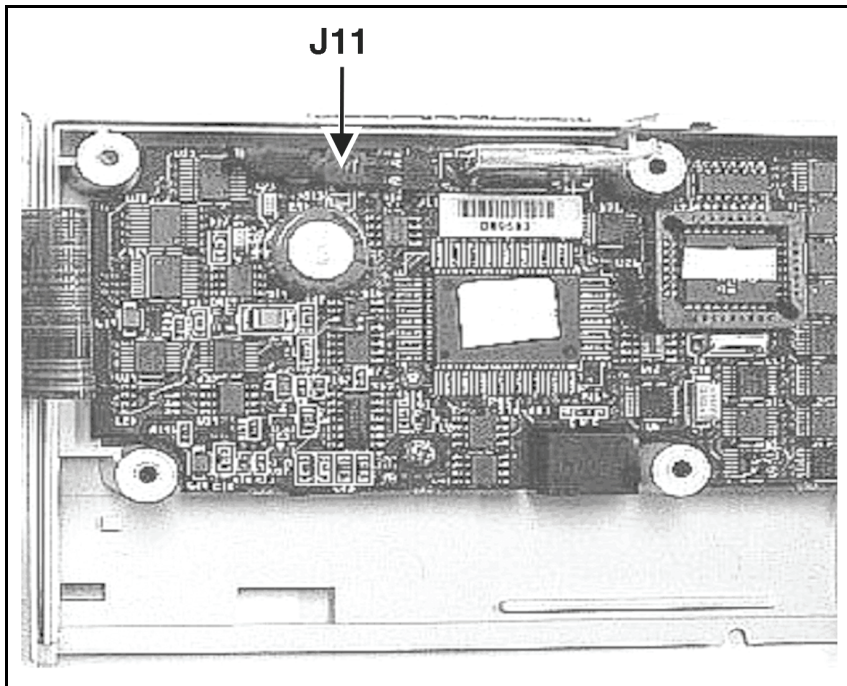

Figure 6-22. Installed Primary PCB
4. Refer to Figure 6-22. Lay the Rear Case Assembly on its back and place the Primary PCB in place over the shorter mounting bosses.
6. Secure the Primary PCB onto the Rear Case using three 2-56 X 1/4" Pan Head Screws (p/n 5101101) and three #2 Lock Washers (p/n 5110049) as shown in Figure 6-22. Torque screws to 22 - 28 in-oz.